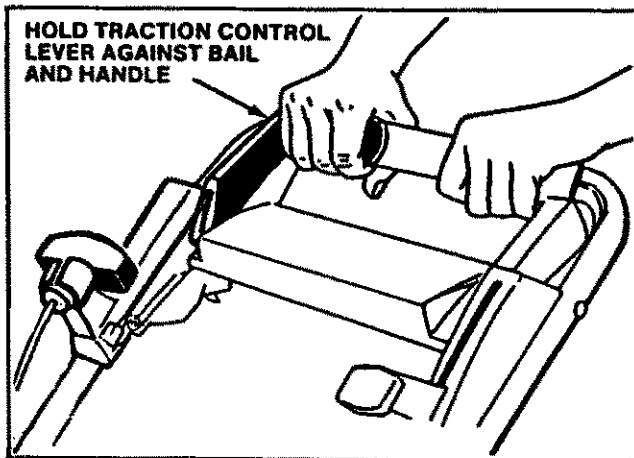

FIGURE 12
TRACTION CONTROL (LM214P & LM212P) (See Figure 12)
6. If equipped, engage the traction drive by holding the traction control lever against the bail and handle. (See Fig. 12.)